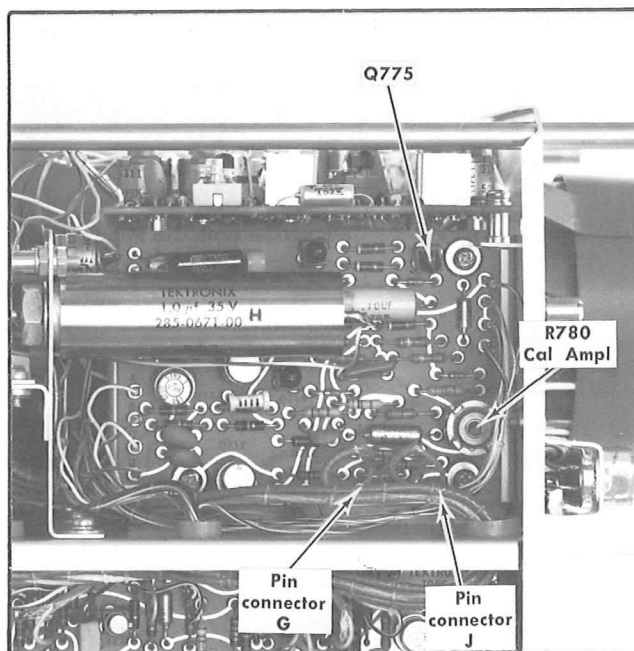

Fig. 5-32. Location of calibrator test points and amplitude adjustment (Calibrator and Regulator board).
- a. Connect the precision DC voltmeter from pin connector G on the Calibrator and Regulators board (see Fig. 5-32) to chassis ground.
- b. Remove transistor Q775 (see Fig. 5-32) from its socket.
- d. ADJUST—Calibrator Amplitude adjustment R780 (see Fig. 5-32) for exactly −2 volts.
- e. Connect the precision DC voltmeter from pin connector J on the Calibrator and Regulators board (see Fig. 5-32) to chassis ground.